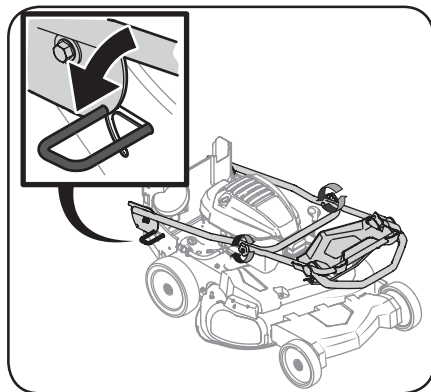

Figure 2-1
2. Push down on the handle adjustment lever with your foot. See Figure 2-1.